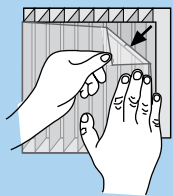

Figure 16b
3. Sealing the Sheets is done by aluminum impermeable, or ventilated filter sticky tapes, as described in the paragraph "Pre-preparation of the sheet" above. Such specialty tapes can be obtained from the leading tape manufacturers, or through Palram dealers (See figures 16b, 16c).